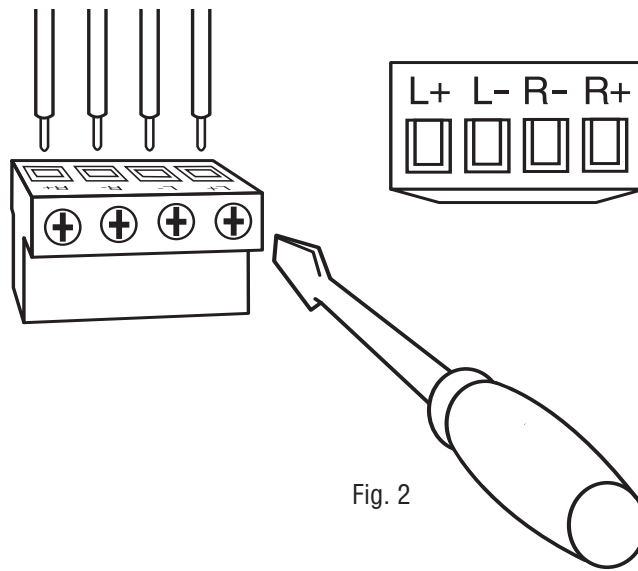

Fig. 2
3. Strip about 1/4" of insulation from the end of each wire. Connect the exposed bare wire to the removable connector plugs using a small screwdriver as shown in Fig. 2.